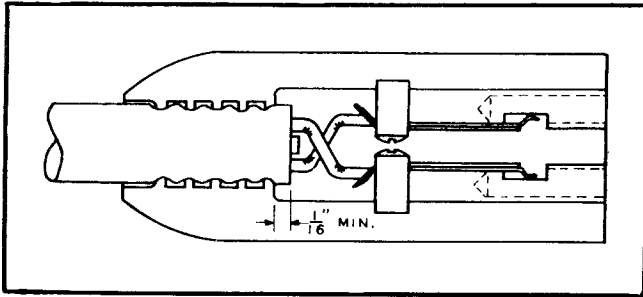

Figure 2-2. Assembly of Jack JK-48—Inside View
(2) Solder the leads on one end of Cordage CO-219 to the pin jacks of Jack JK-48.
(3) To assemble Jack JK-48 (see fig. 2-2), place a piece of 1/2-inch thick felt in a flat-bottomed metal container and fill the container with butyl acetate up to one half the thickness of the felt pad. Place the two halves of the shell for Jack JK-48 face down on the felt pad and press them lightly. Remove one shell from the pad after 15 to 30 seconds and place the pin jacks in this shell as shown in figure 2-2. After 30 to 60 seconds, remove the second half of the shell from the felt pad and assemble it to the first half. Place the entire assembly in a clamping fixture and apply suitable pressure for 15 to 30 minutes, in order to securely bond the assembly together. Buff and polish or otherwise remove rough edges after bonding is complete.